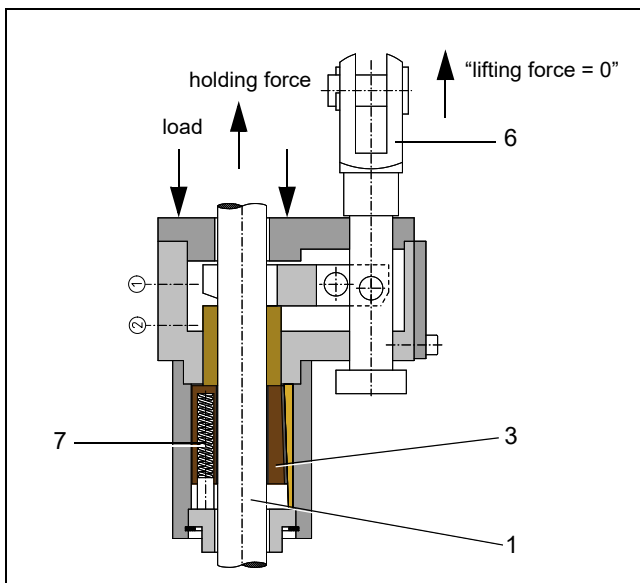
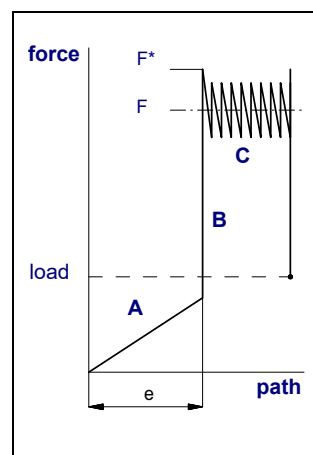

Fig. 3: Safety Catcher KRM (load secured)
Fig. 4: Force-path diagram, schematic
The action of the springs then causes the clamping jaws (3), Fig. 3 to clamp the rod (1), Fig. 3 firmly, thus securing the load.
The full clamping force is built up by as the Safety Catcher KRM together with the falling load is moving along the rod. Due to the self-intensifying static friction at the rod, the clamping jaws (3), Fig. 3 are drawn into the clamping position at their stops (7), Fig. 3 after having moved the tapering distance e (approx. 5 to 15 mm, depending on the design). This movement is illustrated as phase **A** in the force-path diagram, Fig. 4.